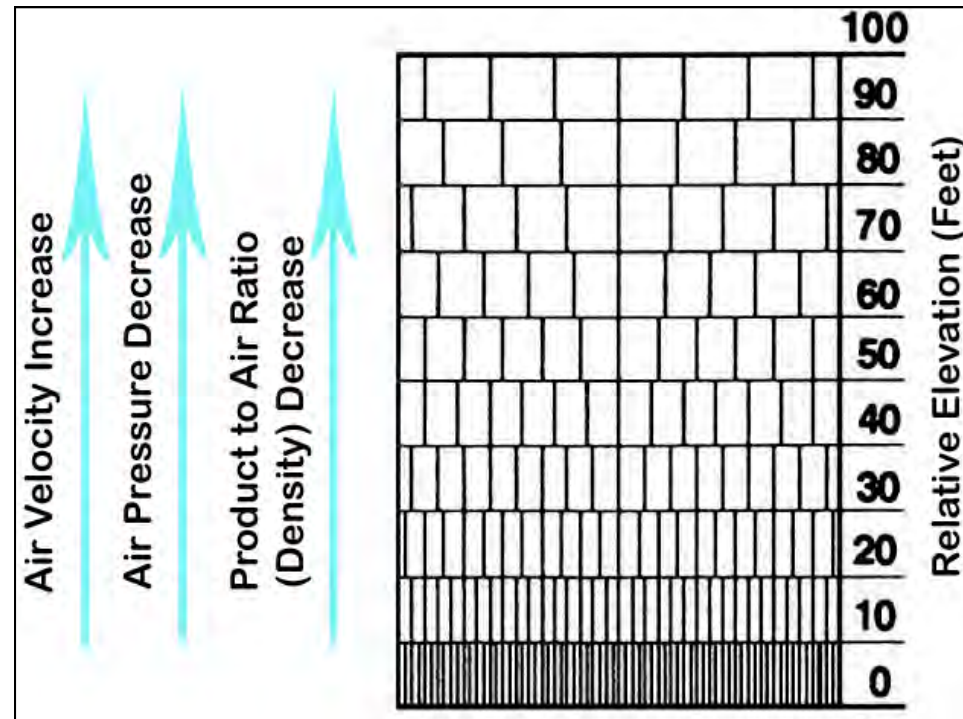

Figure 14. Relative Density at Various Elevations
- The relative density (product to air ratio) decreases as the elevation increases. The higher the storage facility, the longer it will take to unload. Figure 14, illustrates the relative density at various elevations. Note that as the product head decreases, the air velocity will increase and air pressure will decrease.